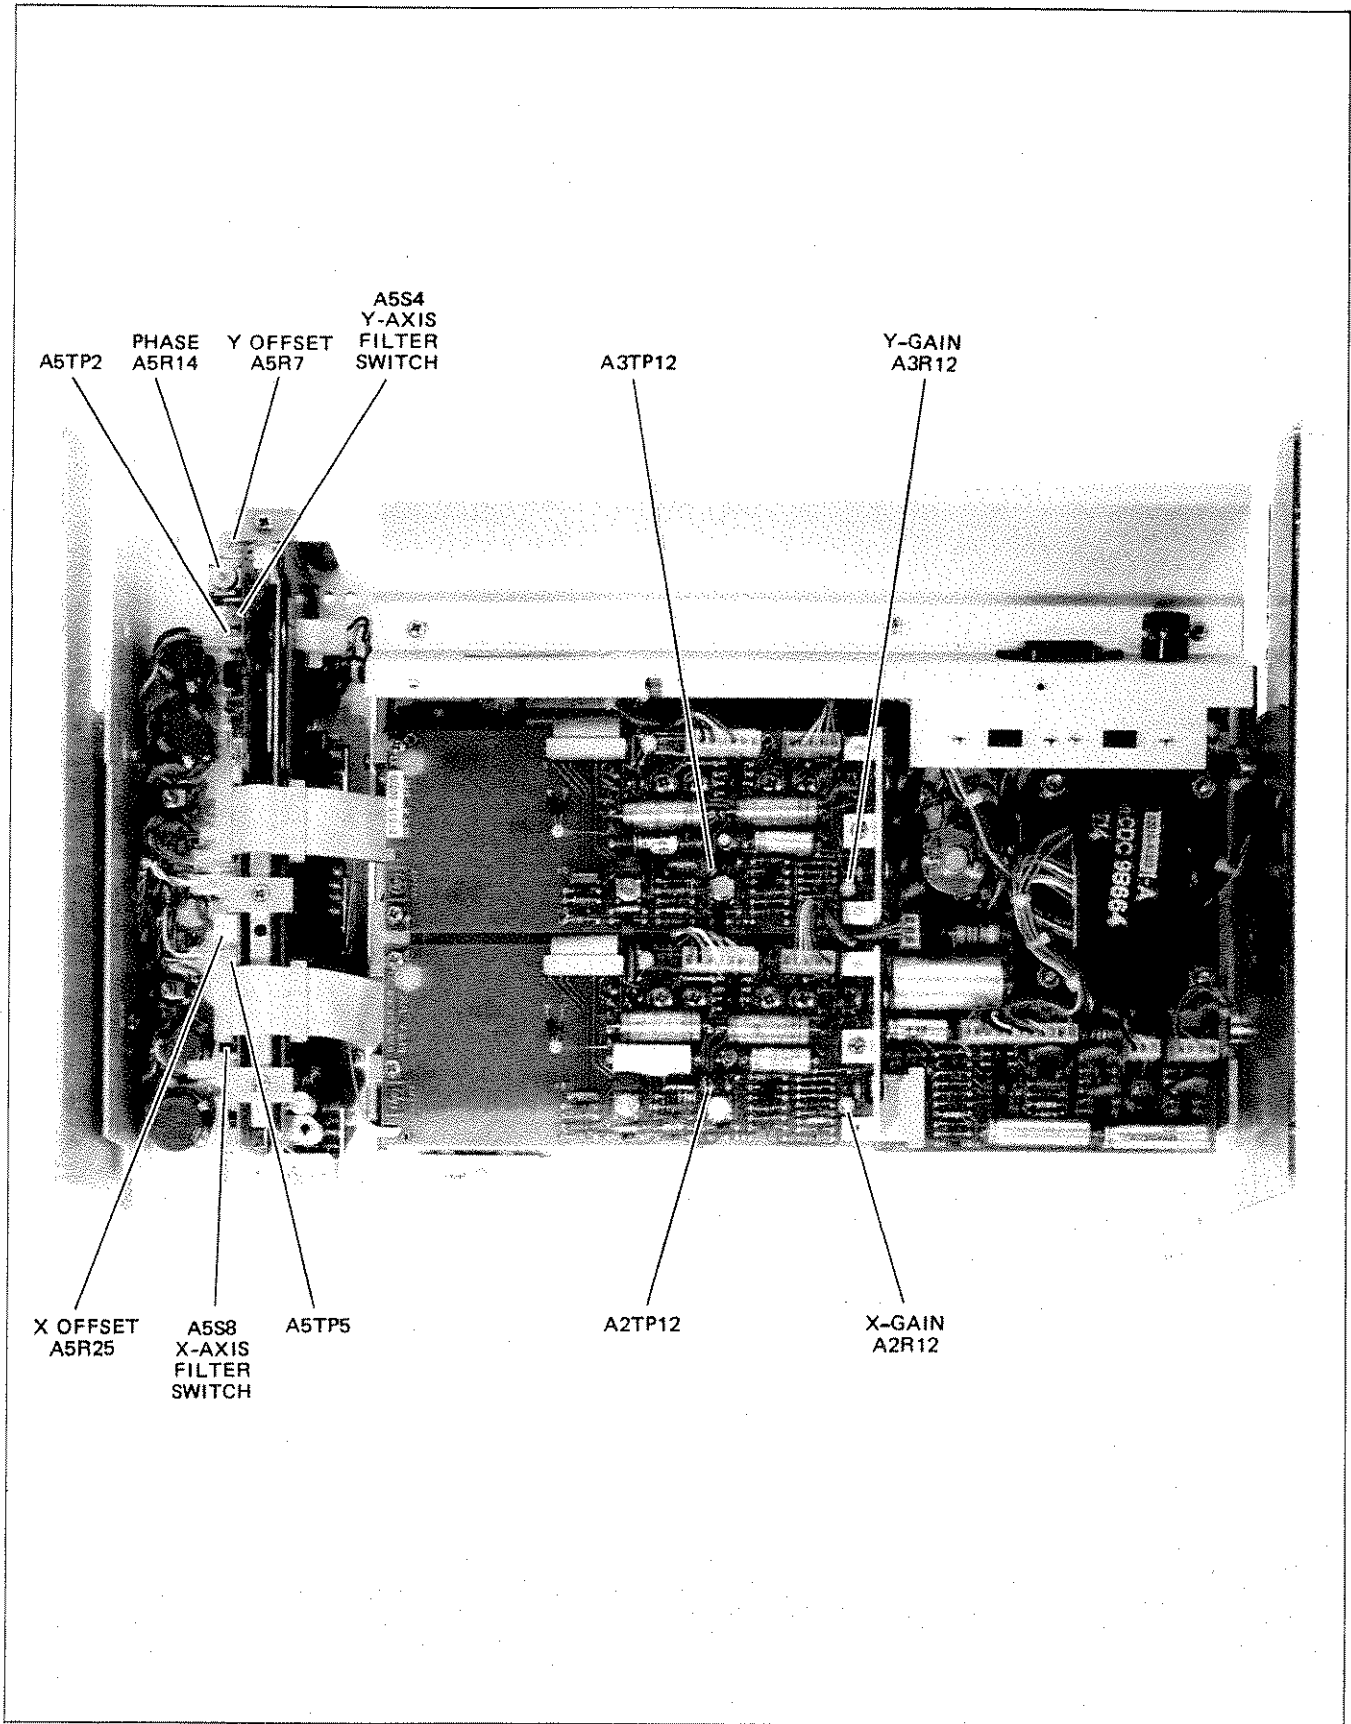

Figure 5-4. Calibration Adjustments and Test Points
- d. Connect an HP Model 3465A Digital Voltmeter between A5TP2 (Y-axis) (+) and A3TP12 (ground) (-). (See Figures 5-4 and 5-5.)
- e. Adjust A5R7 (Y-axis offset adjustment) until the digital voltmeter indicates 0V ± 1.0 mV. (See Figure 5-4.)
- h. Adjust A5R25 (X-axis offset adjustment) until the digital voltmeter indicates 0V ± 0.1 mV. (See Figure 5-4.)
- j. If the retraced line is greater than 0.015 in. (0.38 mm) wider, adjust A5R14 Y-phase adjustment for minimum width of the retraced line. (See Figure 5-4.)
j. Adjust A2R12 X-gain adjustment to meet this specification. (See Figure 5-4.)
c. Adjust A3R12 Y-gain adjustment to meet this specification. (See Figure 5-4.)